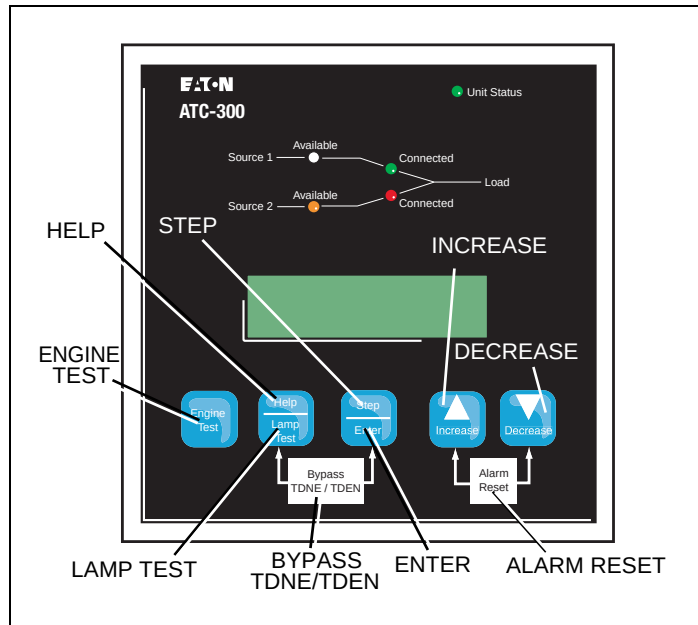

Figure 43. ATC-300 Pushbuttons
Step 8: Manually start the engine generator at the generator controller (Figure 43). Check that the generator is running and the **Source 2 Available** amber LED is lit. Press the **<Step/Enter>** pushbutton, step through the phase voltages, frequency, and message display. If the source message indicates that the source is Good, shut down the generator and place the Genset controller in the Auto-operating position. If the message indicates a problem with the source, the setpoints should be reviewed and the generator checked for proper voltage and frequency output.